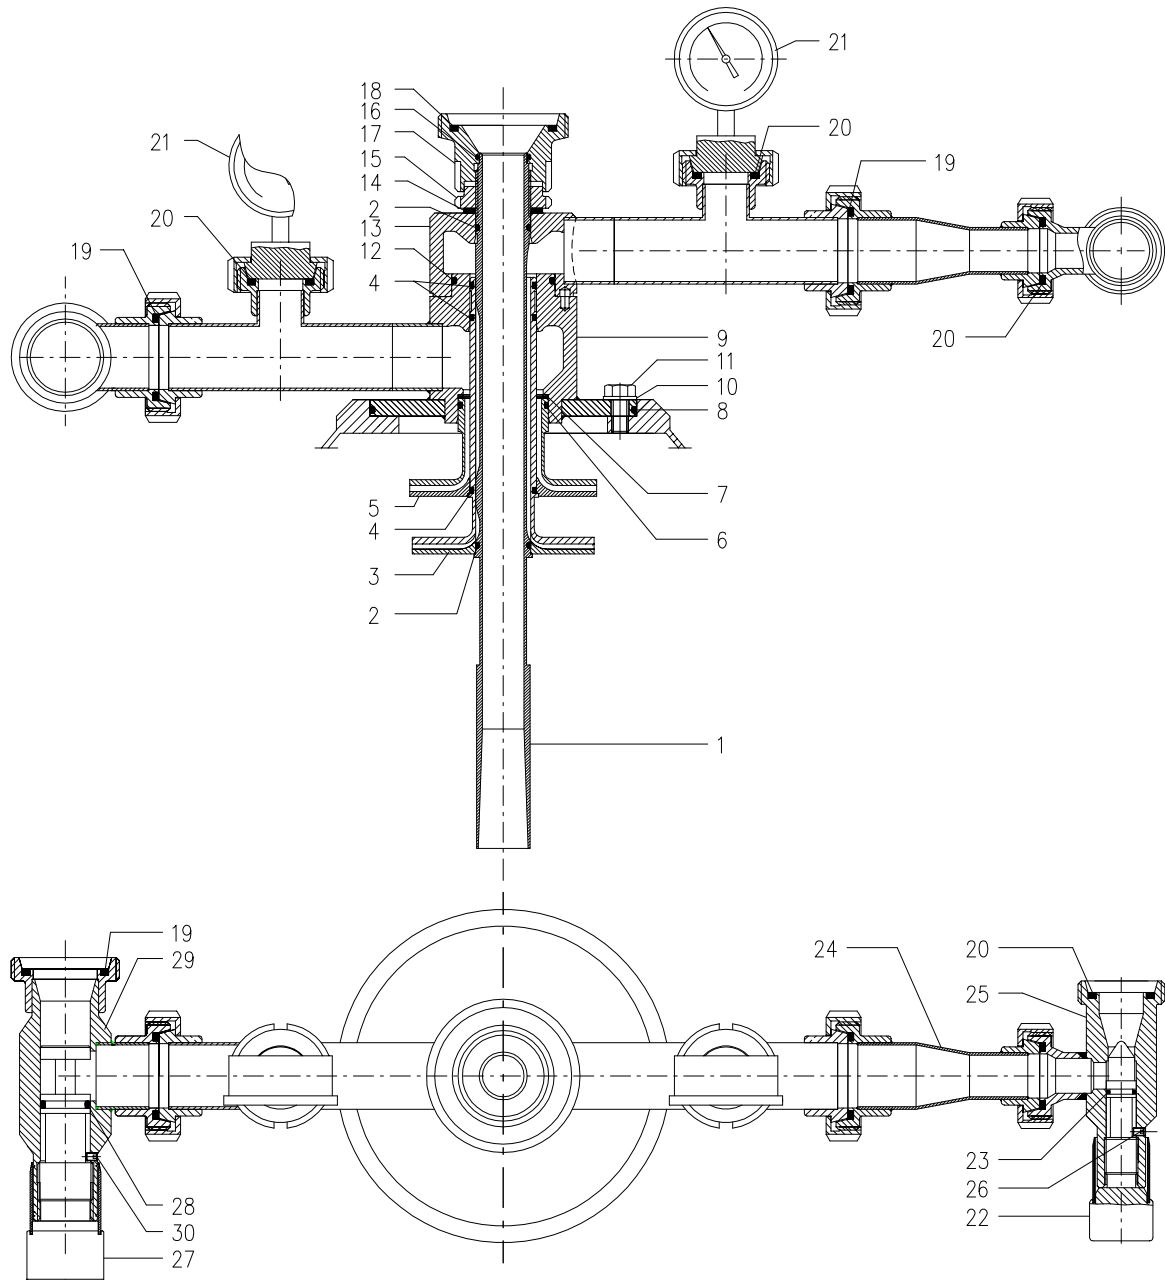
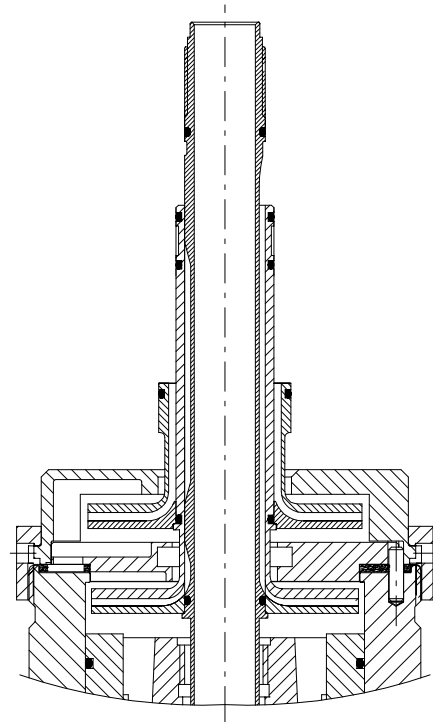

Figure 6.27
Figure 6.28
- 18) After carefully cleaning the grooves, insert the **OR gaskets** on feeding pipe and on the centripetal pumps (see Fig. 6.27).
Proceed according with the following procedure (see fig. 6.27):
The correct position of pumps is shown by Fig. 6.28; the pumps are in the middle of the corresponding chamber of the bowl. This position is obtained by inserting a few spacers (7 - Fig. 6.27) between the buttermilk pump (5) and the inlet-outlet flow unit body (9). The number and thickness of spacers may vary only after the replacement of some parts of the vertical shaft unit (Tab.06) and/or of the bowl (Tab.03) and/or of the inlet-outlet flow unit (Tab.04). In this case it is advisable to vary corresponding number and thickness of spacers indicated on technical card § 3.3. The total thickness of spacers is determined by the following relation:
Proceed in inverse order than assembly (see Fig. 6.27).